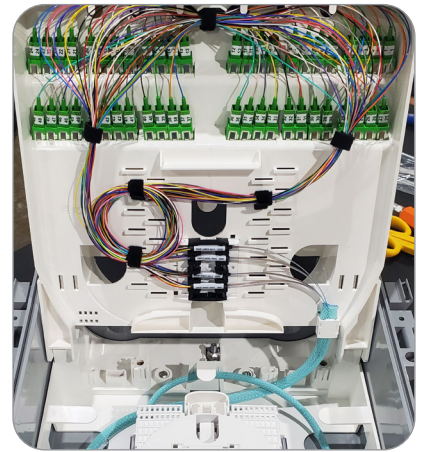
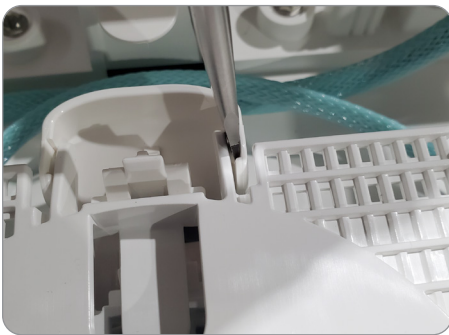

Figure 32
Figure 33
2. Lift the hinged door so it sits open freely (Figure 32). Remove the Velcro securing the splice trays and set aside. If utilizing the ribbon LL-5D version, using a screwdriver or other flat tool, release the splice trays, one at a time, by releasing them as seen below (Figure 33). Set splice trays to the side until needed for splicing.